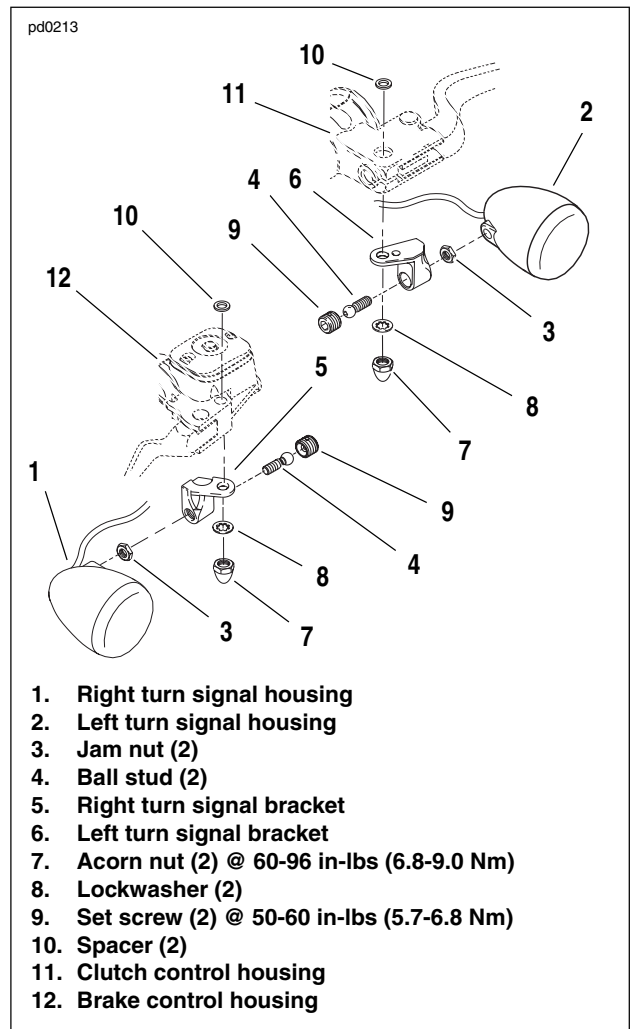

Figure 7-34. Turn Signals
1. See Figure 7-34. Place spacer (10) onto right side mirror stem, slide mirror stem down through hole in front brake master cylinder assembly and right turn signal bracket (5). Install lockwasher (8) and screw on acorn nut (7) finger tight.
- a. Loosen set screws (9) approximately 1/8 turn.